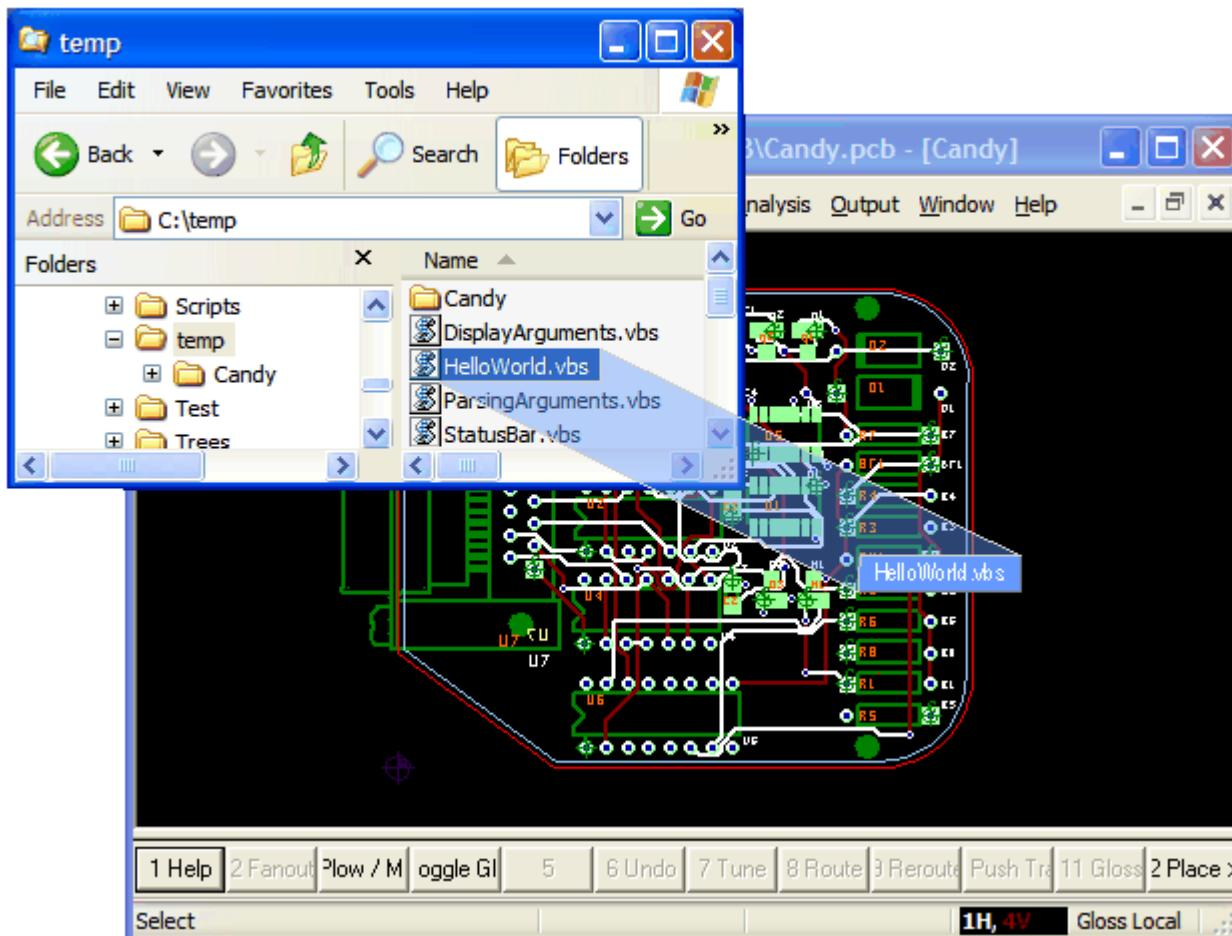

Figure 9-1. Running a script using a drag-and-drop technique.
- 4) Using the mouse to drag a script file from a folder (directory) – or from the desktop – and dropping it on top of an already open document as illustrated in Figure 9-1.